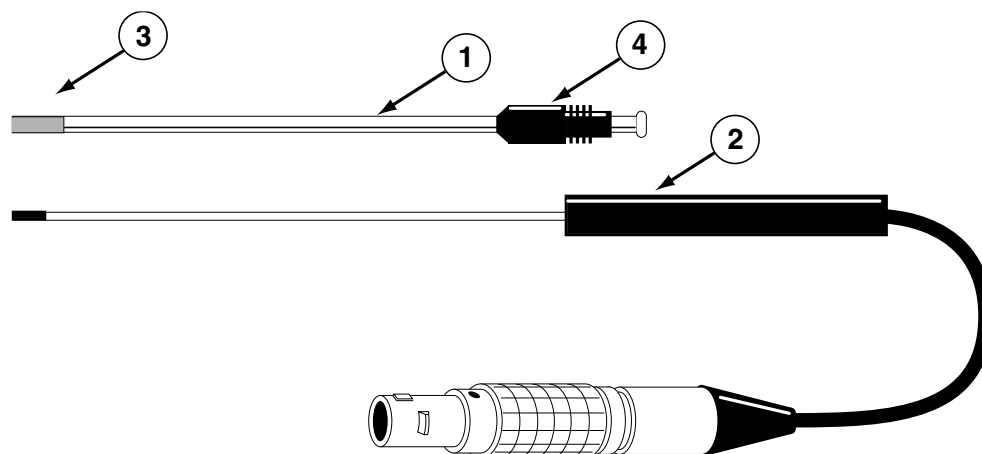

Fig. 11 — Basic probe structure of ISO-NOP sensor
When the ISO-NOP sensor is not being used it should be left connected to the Apollo 1000 in the ON position (or to Pre-Polarizer **NSA-3** with the tip suspended in distilled water. The basic structure of the ISO-NOP sensor is quite simple (see Fig. 11). It consists of an internal NO-sensing working/counter electrode combination ③. This electrode fits inside a disposable protective stainless steel sleeve ② (WPI#**5436**) which must contain fresh electrolyte (WPI#**7325**), and is separated from the external environment by a gas permeable polymeric membrane ① covering the end of the stainless sleeve. The other end of the sleeve is flanged. The locking cap ⑤ is used to attach the sleeve to the probe handle ④.
The basic structure of the ISO-HPO-2 sensor is identical to that of the ISO-NOP nitric oxide sensor (see **Fig. 11**), although there are significant differences in the type of materials used.